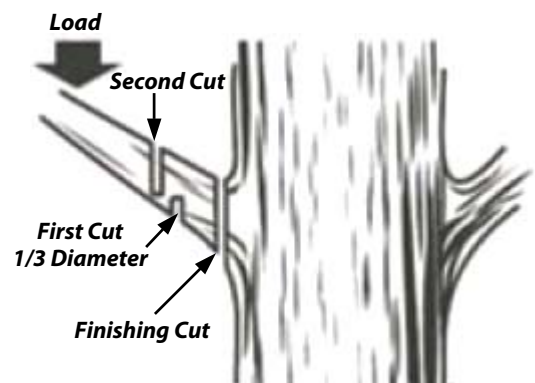

Figure 4
- Under cut the branch 1/3 through for your first cut. Your second cut should over cut to drop the branch off (**Figure 4**).